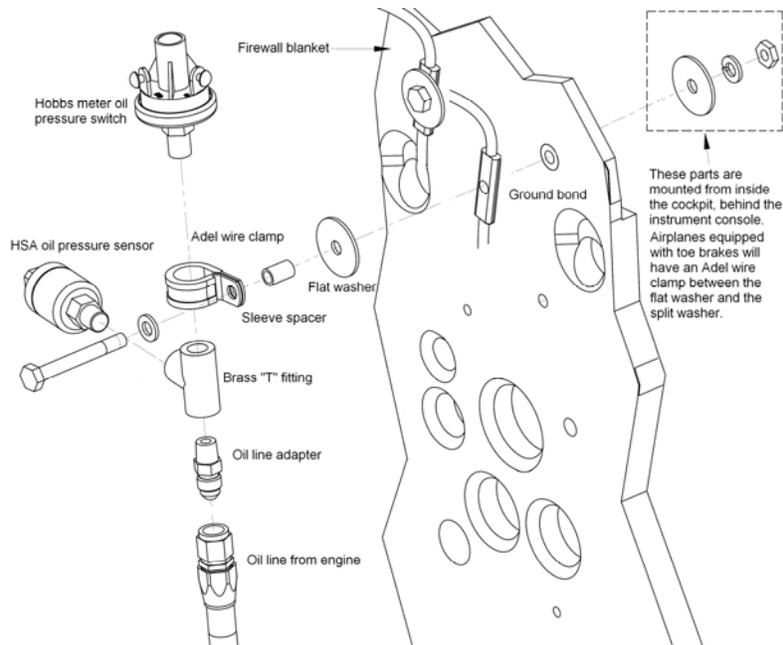

Figure 79-9 Exploded View of the Oil Pressure Mount
5. Refer to the exploded view shown in Figure 79-9. Have someone hold a wrench on the nut from inside the cockpit.
6. Refer to the exploded view shown in Figure 79-9. Have someone hold a wrench on the nut from inside the cockpit.
16. Using Figure 79-9 as a guide, assemble the mounting bracket and hardware.
18. Have some one hold the bolt from the engine compartment. Assemble the hardware from the cockpit side as shown in Figure 79-9.